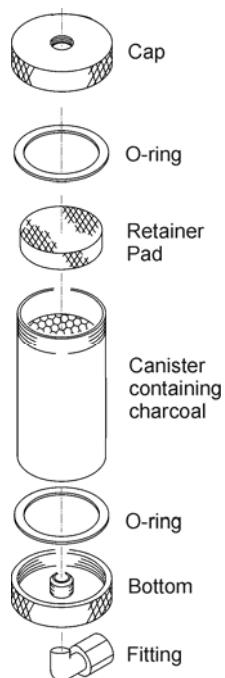

Figure 9-2. Charcoal Canister Assembly
1. Locate the scrubber on the outside rear panel. Figure 9-2 shows an exploded view of the scrubber assembly.